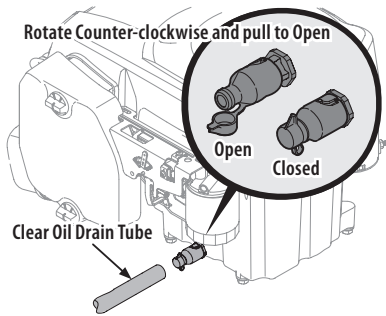

Fig. 34
4. Open the protective cap on the end of the oil drain valve to expose the drain port (Fig. 34 on page 27).
- The engine is equipped with a twist-and-pull drain port. Turn the oil drain valve 1/4-turn counter-clockwise, then pull outward to begin draining oil. After the oil has finished draining, push the end of the oil drain valve back in and turn 1/4-turn clockwise to close the oil drain. Re-cap the end of the oil drain valve to keep debris from entering the drain port (Fig. 34).